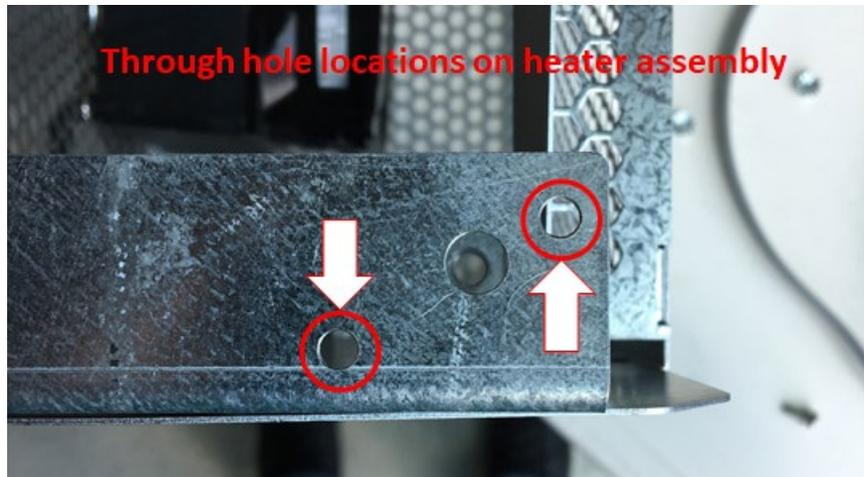
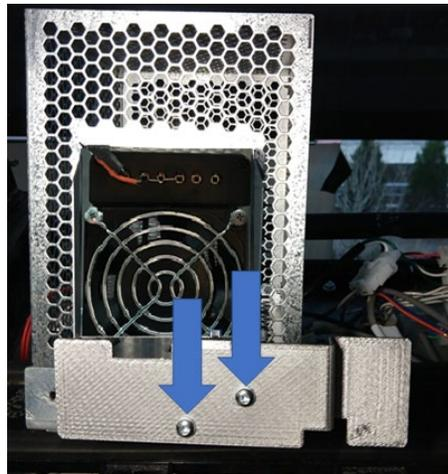

Figure 198
Figure 199
- 12) Attach OPTIC Heater Mounting Plate (497-0524577) to NCR heater assembly bracket using two provided 8-32 (006-8626667) screws and 8-32 nuts (006-8617730) at locations as shown. See Figure 198 and Figure 199 below.